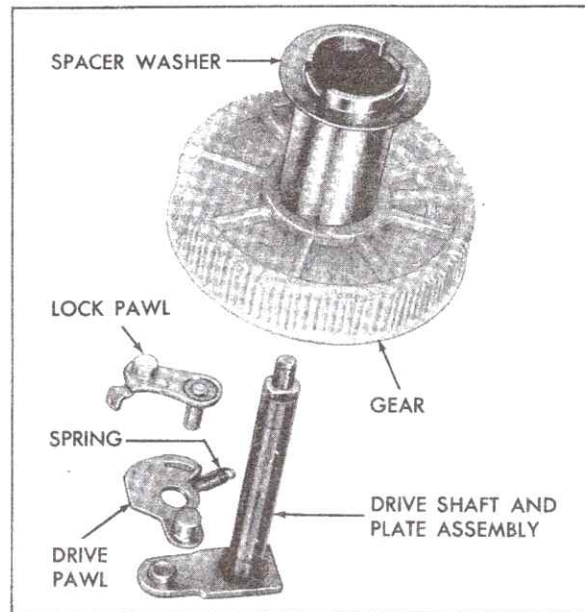

Fig. 12-30 Drive Shaft Assembly - Disassembled
7. Slide drive plate and shaft assembly out of gear assembly and remove drive pawl, lock pawl, and coil spring from drive plate and shaft, Fig. 12-30.
3. Assemble drive pawl and lock pawl on drive plate and shaft, Fig. 12-30.
4. Slide gear assembly over drive shaft, Fig. 12-30. Move drive and lock pawls as required to allow their respective pins to fit in the gear guide channel.